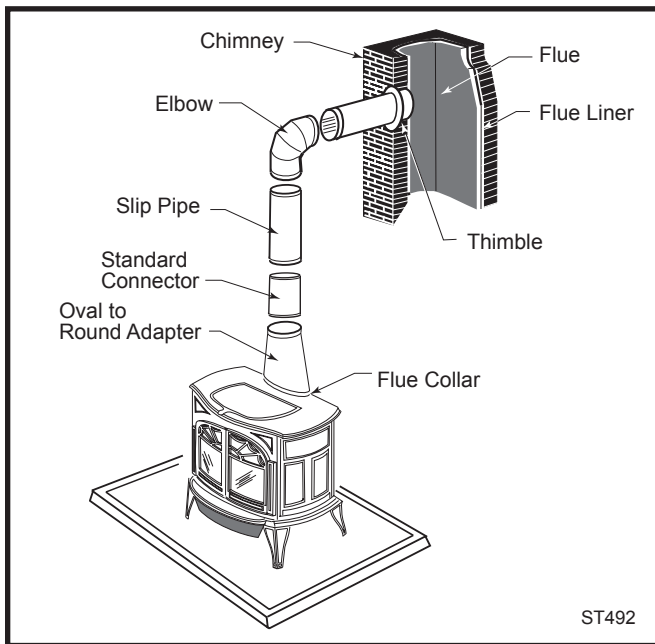

Fig. 5 An exploded view of the chimney connection in a free-standing masonry installation.
- Begin assembly at the flue collar of the stove. Insert the first crimped end into the stove's flue collar. Keep each crimped end pointing toward the stove. (Fig. 5) Using the holes in the flue collar as guides, drill 3 mm (1/8") holes in the bottom of the first section of chimney connector and secure it to the flue collar with three #10 x 1/2" sheet metal screws.